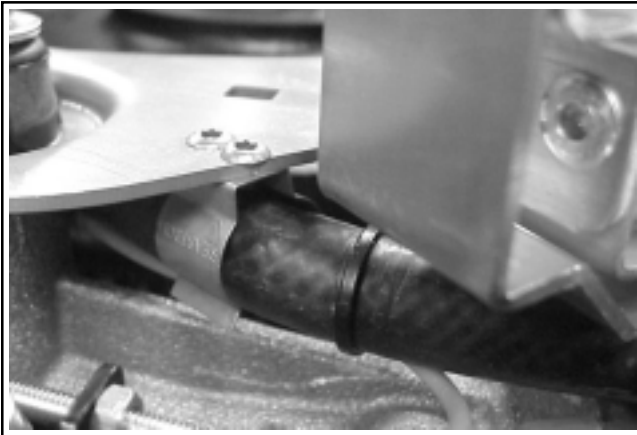

Figure 11-78. Seating By-pass Hose.
8. Lift the by-pass hose and secure it within the metal clip under the main support bracket. See Figure 11-78.